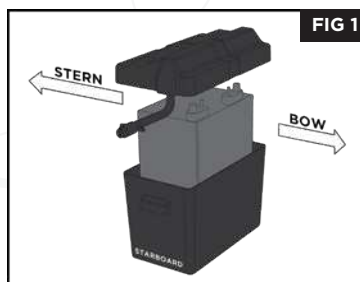

FIG 1
- **Install the battery box** in the hull so that the high ridge of the lid is forward and the battery box plug comes out of the lid as shown (fig 1). Be sure to secure the battery box to the hull with the 1" battery box retention strap that is mounted to the hull